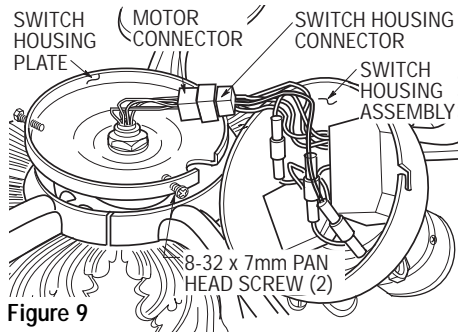

Figure 9
- 13. Engage the connector of the switch housing assembly with the motor connector (Figure 9). The two connectors are keyed and color-coded and must be mated correctly (color-to-color) before they can be engaged. Make sure the connectors close properly.
- 14. Partially install two 8-32 x 7mm pan head screws (supplied) into two of the threaded holes in the side of the switch housing plate (Figure 9).